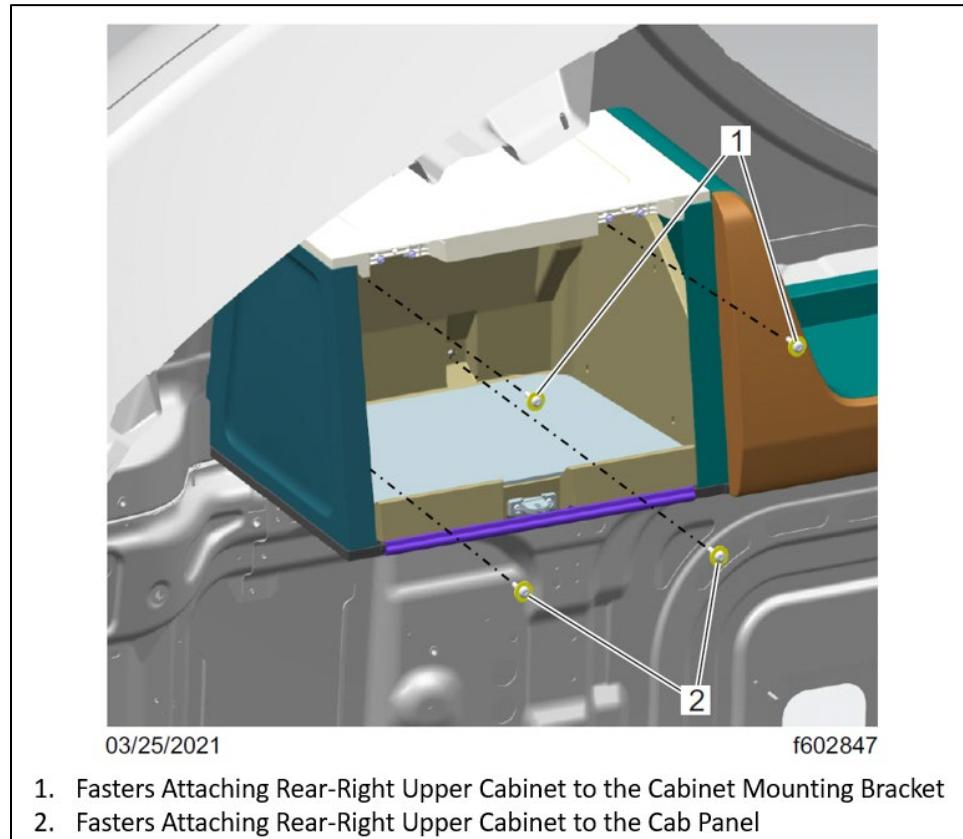

Fig. 43, Fasteners That Attach the Rear-Right Upper Cabinet to the Upper-Rear Shelf and Cab Panel
7.1. Remove the four fasteners that attach the rear-right upper cabinet to the cabinet mounting bracket and the cab panel. See Fig. 43.